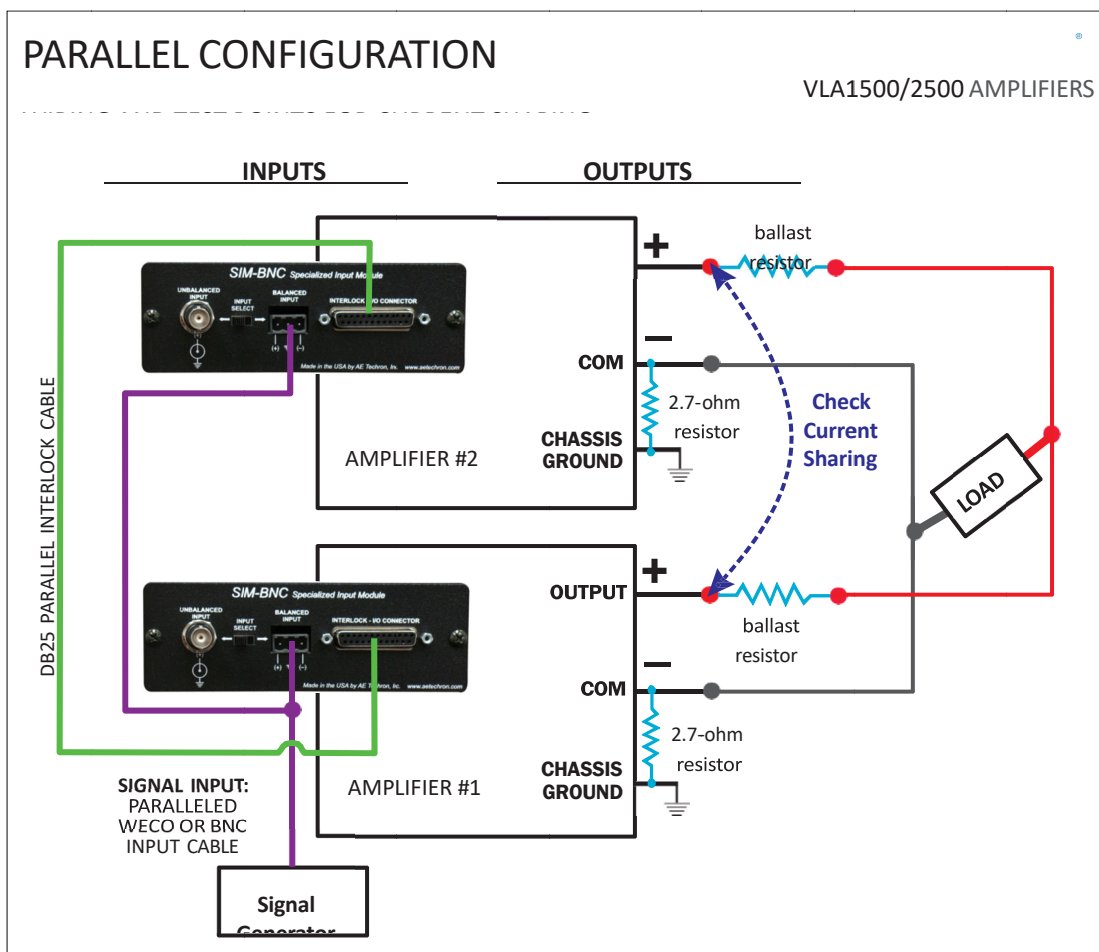

Figure B.2.30 – Wiring and Test Points to Verify Current Sharing
C. Check to ensure that all system wiring has been correctly installed as shown in **Figure B.2.30**.